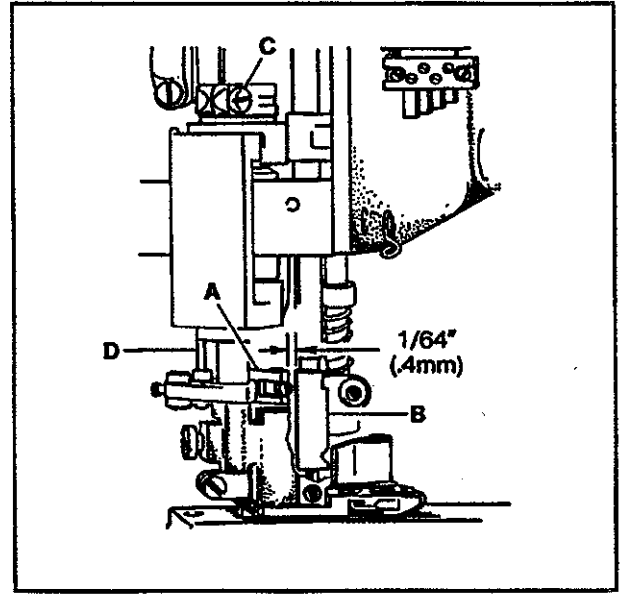

FIG. 20
Turn the handwheel in operating direction until link (A, Fig. 20) has traveled fully to the front. There must be a  $1/64$ " (0.4mm) clearance between link (A) and the back of needle head (B) when link (A) starts to jackknife. Loosen screw (C) and rotate driving sleeve (D) to position link (A). Tighten screw (C).